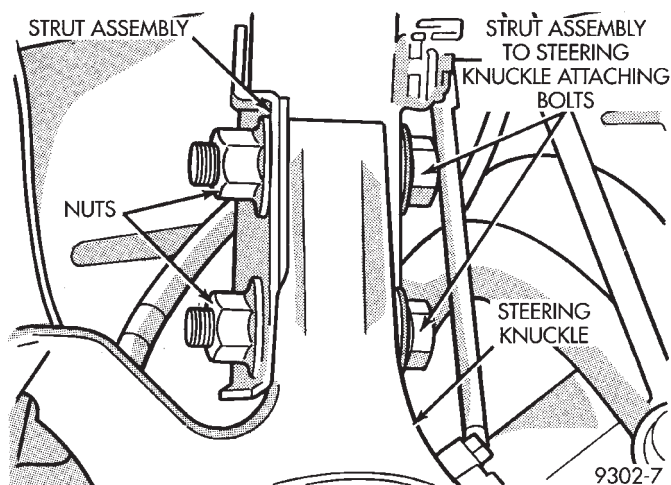

Fig. 25 Strut To Steering Knuckle Attaching Bolts
(12) Remove the strut assembly to steering knuckle attaching bolts (Fig. 25).
(3) Install the strut assembly to steering knuckle attaching bolts (Fig. 25). Install nuts on attaching bolts (Fig. 25). Tighten the strut to steering knuckle attaching bolt nuts to a torque of 169 N·m (125 ft. lbs.).